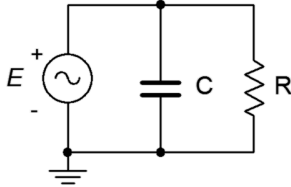

Figure 3.18
29. For the network shown in Figure 3.18, determine a value of C such that the impedance magnitude of the circuit is $1\text{ k}\Omega$. The source is a 50 Hz sine and R is $2.2\text{ k}\Omega$.
31. For the circuit shown in Figure 3.18, determine a value for C such that the magnitude of the source current is 1 mA . E is a $2\text{ volt } 10\text{ kHz}$ sine and $R = 8\text{ k}\Omega$.
37. Given the circuit shown in Figure 3.18, determine a value for C such that the impedance angle is -45 degrees. The source a 1 volt peak sine at 600 Hz and $R = 680\ \Omega$.